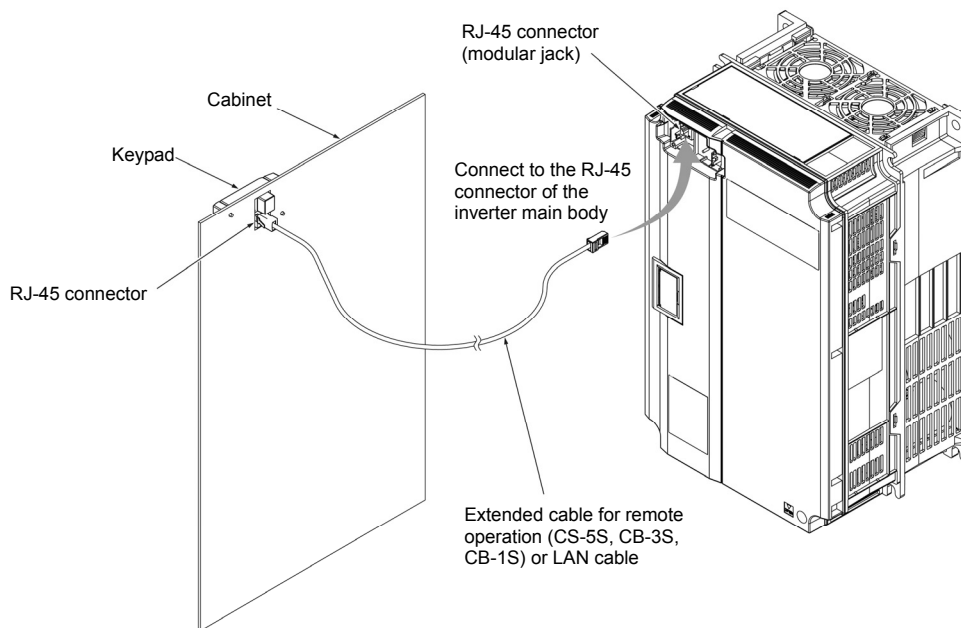

Figure 2.3-8 Connection of the Extension Cable or the Commercially Available LAN Cable to the Keypad and the Inverter Main Body
- (5) Connect the extended cable for remote operation (CB-5S, CB-3S, CB-1S) or the commercially available LAN cable (straight) to the keypad RJ-45 connector and the inverter main body RJ-45 connector (modular jack). (Refer to Figure 2.3-8.)